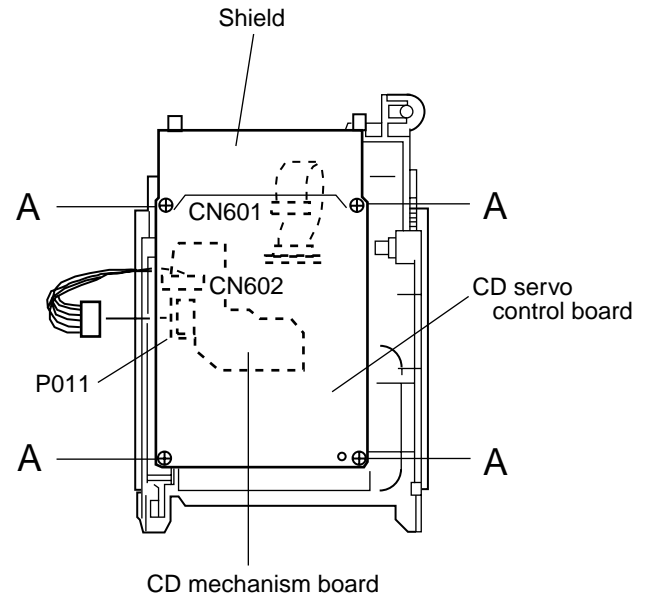

Fig. 1
■ Removing the playback / recording & eraser head (See Fig. 1 to 3)
1. While shifting the trigger arms seen on the right side of the head mount in the arrow direction, turn the flywheel R in counterclockwise direction until the head mount has gone out with a click (See Fig. 1).
■ Removing the CD mechanism and CD servo control P.C. board (See Fig. 1 and 2)
- (2) Life of the laser diode (Fig.1)
(Fig.1)